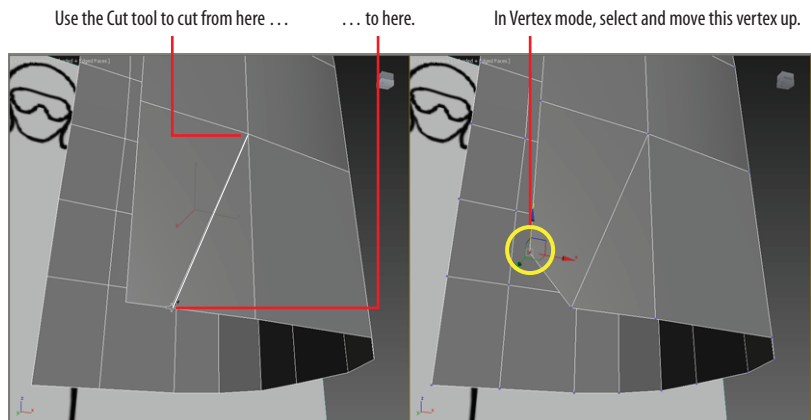

FIGURE 7.25 Cut the polygon at an angle to raise the corners (left). Select the corner vertex and move it up (right).
3. Go to the top level by exiting the Edge tool. Use the Cut tool (Graphite Modeling Tools tab > Edit panel > Cut), and cut an edge starting at the top corner of the polygon closest to the groin. Cut about halfway to the right from the corner of the model's bottommost edge. See Figure 7.25 (left).
5. In Vertex mode, select the lowest inside vertices and move them up a bit to create a diagonal edge, as in Figure 7.25 (right). Do this for both the front and back of the model.